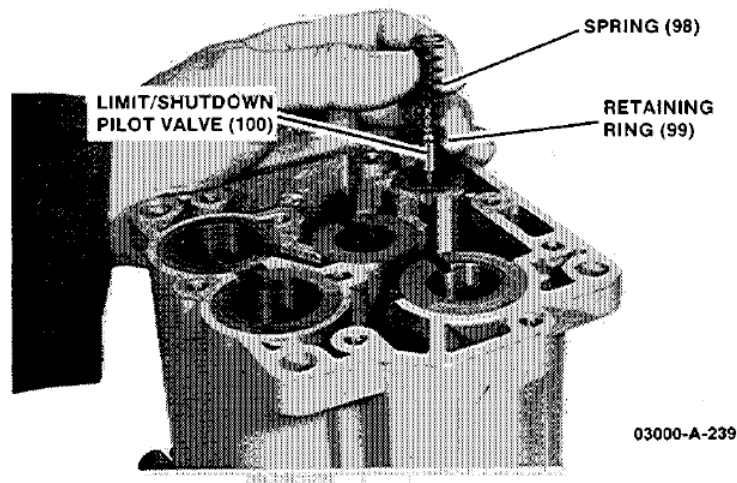

Figure 5-11. Limit Shutdown Assembly
1. Install O-ring (128) on needle valve (127) and install it in case (26).
2. Install O-ring (130) on air bleed plug (129) and install it in case (26).
3. Install stop screws (34). Leave screws (1) on cover plate (35) loose until after the governor is calibrated.
4. Assemble servo piston (103) and link (102). Start double diameter pin (104) into the chamfered hole in servo piston (103). Align hole in link (102) with pin, and press the pin in. Be sure the pin does not protrude from either side of the piston. Install the piston assembly in the case.
5. Turn case (26) bottom side up. Install retaining ring (99) on limit/shutdown pilot valve (100). Install spring (98) on the spring seat of plunger (100) and install this assembly in the case (Figure 5-11).
6. Install one buffer spring (97), buffer piston (101), and second buffer spring (97) in the buffer bore of case (26).
7. Place base gasket (96) on case (26). Install and secure base (95) with seven screws (75).